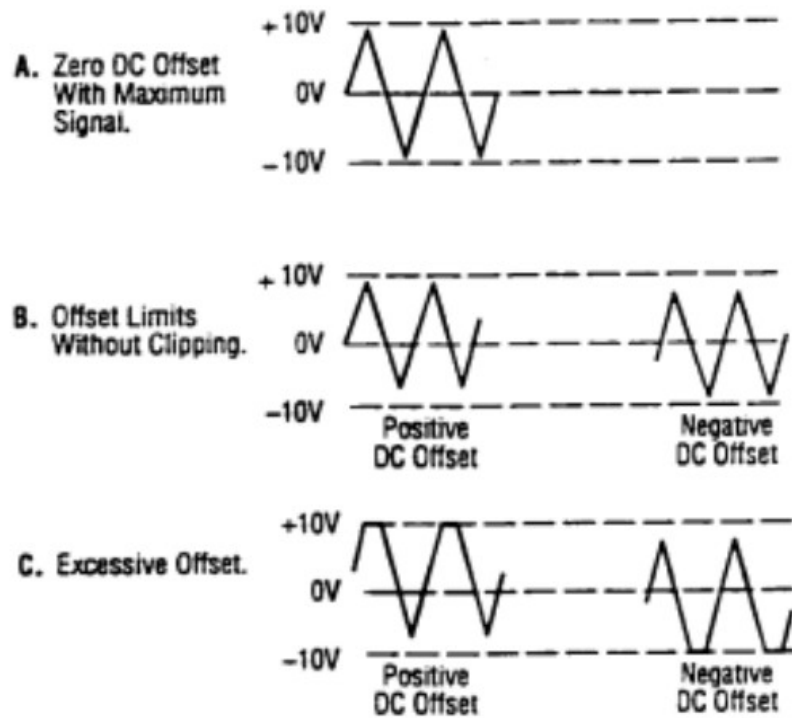

Figure 3. Use of DC OFFSET Control
6. Adjust the amplitude of the output as desired using the OUTPUT LEVEL control (4). Rotation of this control varies the amplitude from maximum to 20 dB below maximum. An additional attenuation of -20 dB is available by engaging the -20 dB switch (11). The attenuation factors can be combined for a total of -40 dB. The maximum signal level is 10 V p-p (into 50 Ω).
7. A superimposed DC component can be added to the output signal by engaging the DC OFFSET switch (14) to enable operation of the DC OFFSET control (5). Rotation of this control adds a positive or negative DC component to the output signal. The DC component introduced is independent of the OUTPUT LEVEL control and can be varied by ± 10 volts open circuited or ± 5 volts into 50 Ω . The DC Offset does not affect the TTL/CMOS output jack. The effect of DC OFFSET is shown in Fig. 3.
6. Remember that the output signal swing of the generator is limited to ± 10 volts open circuited or ± 5 volts into $50\ \Omega$, and applies to the combined peak-to-peak signal and DC offset. Clipping occurs slightly above these levels. Fig. 3 illustrates the various operating conditions encountered when using the DC offset. If the desired output signal is large or if a large DC offset is required, an oscilloscope should be used to make sure that the desired signal is obtained without undesirable clipping.